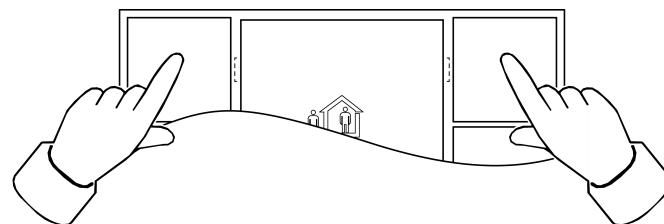

Figure 1: Opening or exiting a menu
- Switching to the menu: Press the top two buttons simultaneously (see figure 1).